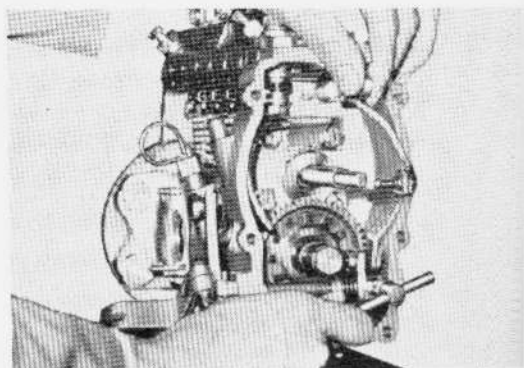

Fig. 3-165 Control Lever Shaft Removal
Remove the snap washer (45) installed onto the control lever shaft (41). Next, as per Fig. 3-165, loosen and remove the stopper bolt (38) (taper bolt), and remove the floating lever from the arm portion. Then, pull out the control lever shaft toward the side.